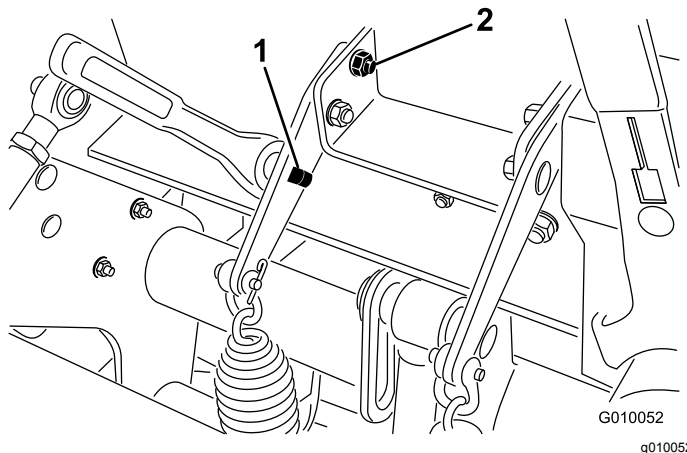

Figure 30
3. Insert a 1/2 inch ratchet or breaker bar into the square hole in the spring plate (Figure 30).